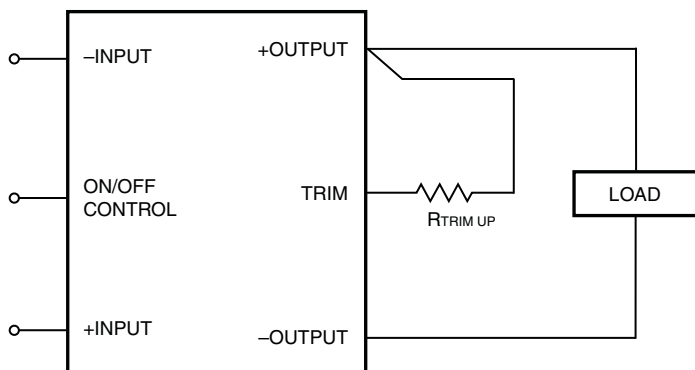

Figure 5. Trim Connections To Increase Output Voltages
**Positive** ("P" suffix) polarity models are enabled when the on/off pin is left open (or is pulled high, applying +10V to +15V with respect to -Input) as per Figure 5. Positive-polarity devices are disabled when the on/off pin is pulled low (0 to 0.7V with respect to -Input).
**Negative** ("N" suffix) polarity devices are off when pin is left open (or pulled high, applying +2.5V to +15V), and on when pin is pulled low (-0.1 to 0.8V) with respect to -Input as shown in Figure 5.